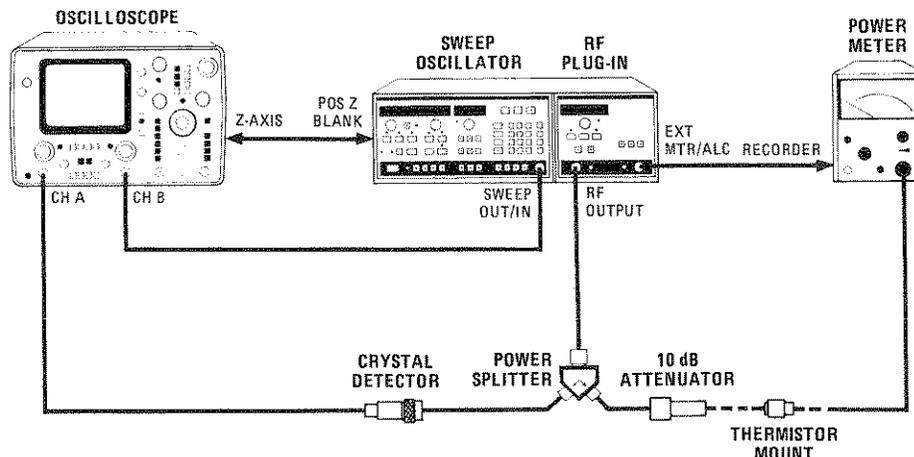

Figure 5-26. ALC Gain Adjustment Test Setup
1. Connect equipment as shown in Figure 5-26.